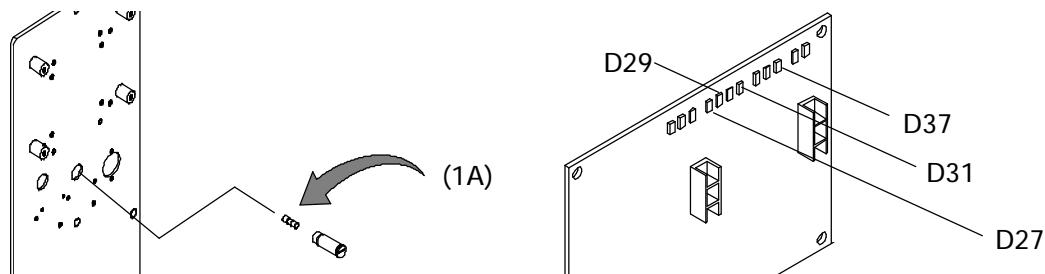

Fig. 24
- c) If the led DL5 does not light up, but the leds D37 (corresponding to the microswitch of the right handle) and the led corresponding to the push-button pressed on the left box (D29 or D30 or D31) light up regularly check and if necessary replace the fuse (code 02001434, tav. 7) and at last the printed circuit board (code 02E03947, tav. 7). If the leds D29, D30, D31 and D27 do not light up regularly, check the wiring between the push-button micro switches and the printed circuit board as well as the microswitches (code 02E03927, tav. 2) (Fig. 24).
- c) If the led D37 does not light up, but the leds D27 and D31 light up regularly, check and if necessary replace the fuse (code 02001434, tav. 7) and at last the printed circuit board (code 02E03947, tav. 7). If the led D27 and D31 do not light up regularly, check the wiring as well as the micro switches (code 02E03927, tav. 2) (Fig. 24).